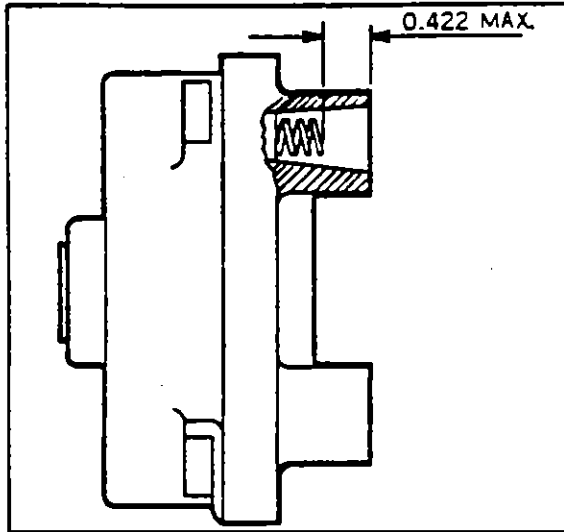

Figure 8-10. Contact Spring Inspection
a. Inspect distributor block contact springs. Top of spring must not be more than 0.422 of an inch below top of tower as shown in Figure 8-10. If broken or corroded, they should be replaced.